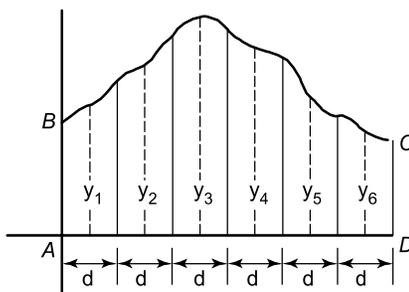

Figure 15.3
To determine the area  $ABCD$  of Figure 15.3 using the mid-ordinate rule:
- (ii) Erect ordinates in the middle of each interval (shown by broken lines in Figure 15.3)